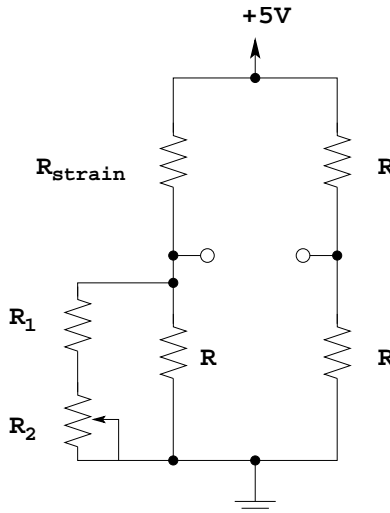

Figure 3.
2. Consider the instrumentation amplifier shown in Figure 3 and in Example 2.7 in Sedra and Smith. Design the amplifier with a total differential gain of about 600, that is $V_O = 600(V_1 - V_2)$ (the differential gain of 30 is part of this).